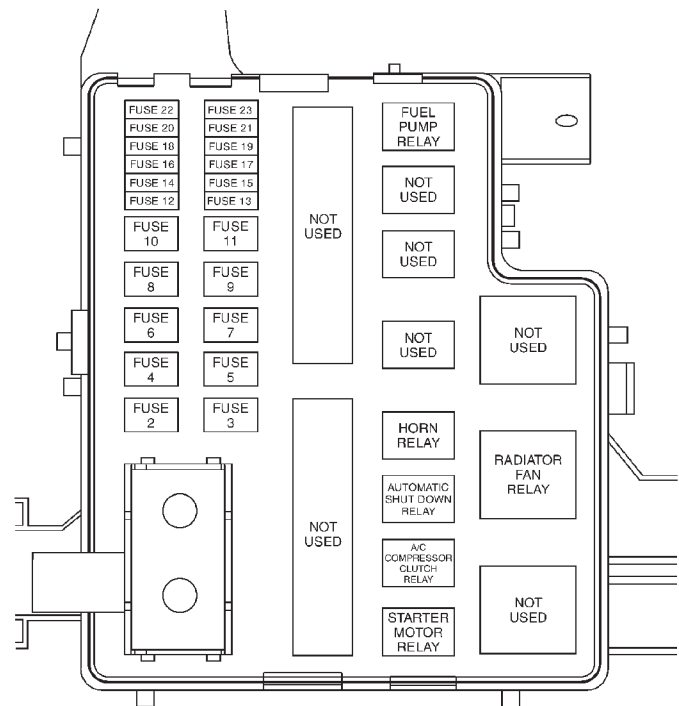

Fig. 7 Power Distribution Center (PDC)
(1) Remove the Power Distribution Center cover and locate the horn relay (Fig. 7).
(2) Remove the horn relay.